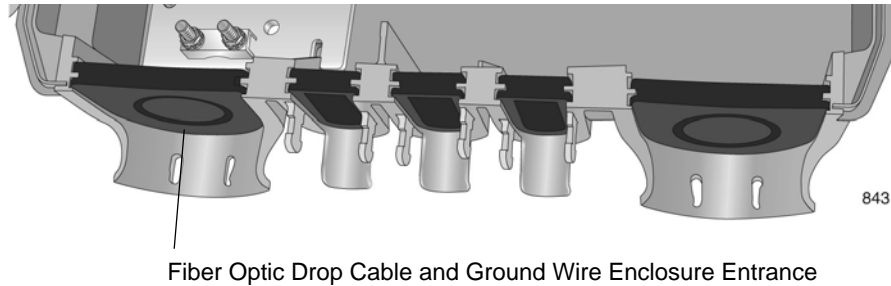

Figure 14. Location of Fiber Optic Drop Cable and Ground Wire Entrance
1. Locate the fiber optic drop cable and ground wire entrance on the enclosure, as shown in Figure 14.